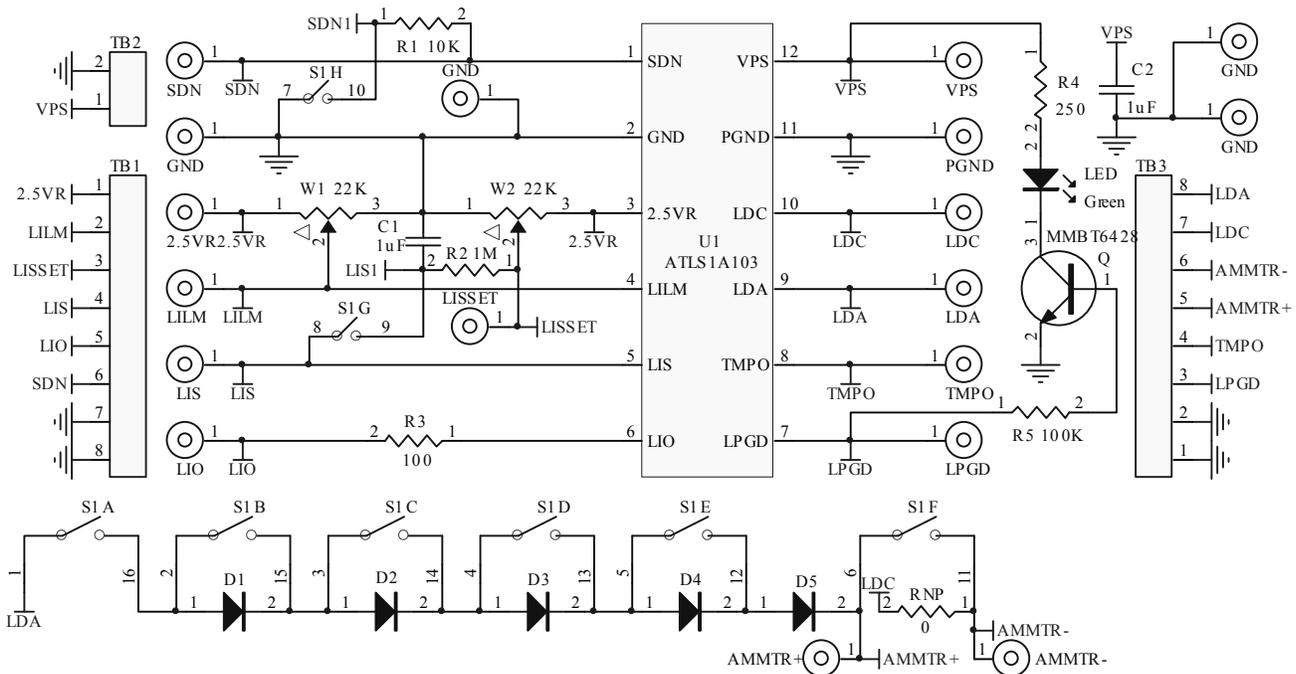

Figure 7. Schematic of ATLS1A103DEV1.0
The schematic is shown in Figure 7 below.
output current, see the schematic shown in Figure 7.
- 6. Test the controller with the “dummy laser”. The 5 diodes on the board, D1 to D5, can form a “dummy laser” to act as the laser diode in the place of a real laser so that in case there is a problem in the circuit, the expensive laser would not be damaged, see schematic in Figure 7. Turn the switch S1A to the on position (upper), to connect the “dummy laser” to the controller. Turning switches S1B, S1C, S1D and S1E, up and down will increase (turning down the switches) and decrease (turning up the switches) the forward voltage of the “dummy laser” which can be measured by a volt meter between the LDA and the ground. Each diode can increase or decrease the output forward voltage by about 0.7V when the output current is 1A. **Warning: when output 1A current, the diodes may get very hot, don't put your fingers on them.** The switch bank and their corresponding diodes are shown in the table below. The diode D5 is always activated so that the total forward voltage range is from 0.7V to 0.7V + 0.7×4 = 3.5V. Please be aware of this fact: when the output voltage is low by shorting circuit all the diodes, the controller will need to consume a lot of power and may get too hot that the internal temperature protection circuit shut off the controller automatically. When this happens, wait for a few seconds, let the controller cool down, the controller will restart by itself again after the temperature is lowered to certain level. This is the way to calculate the power consumption of the controller: